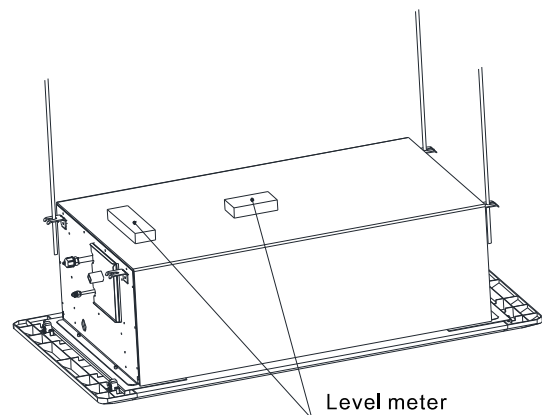

Figure 3.5
3) Confirm the levelness of the main body by the level meter (strictly prohibit the declination toward the non-drain side. It had better decline toward the drain side). Refer to Figure 3.5.